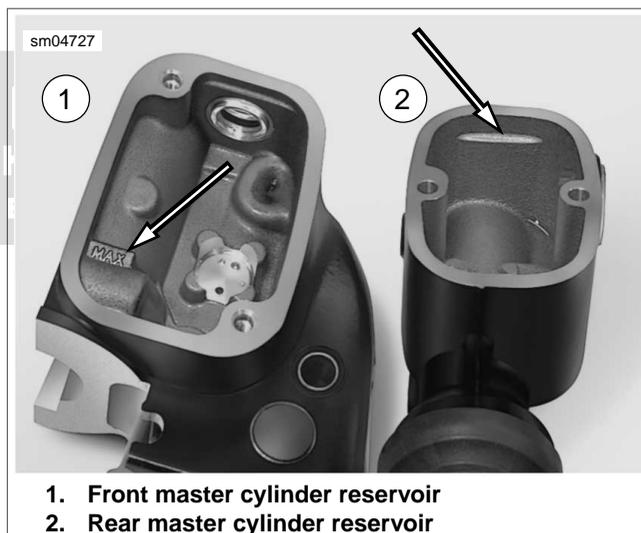

Figure 1-7. Brake Fluid Level
- c. Check brake fluid level. If necessary, add D.O.T. 4 BRAKE FLUID until level is flush with top of ledge cast at front of reservoir. See Figure 1-7.
- c. Check brake fluid level. If necessary, add D.O.T. 4 BRAKE FLUID until level is flush with step (marked MAX) cast at rear of reservoir. See Figure 1-7.